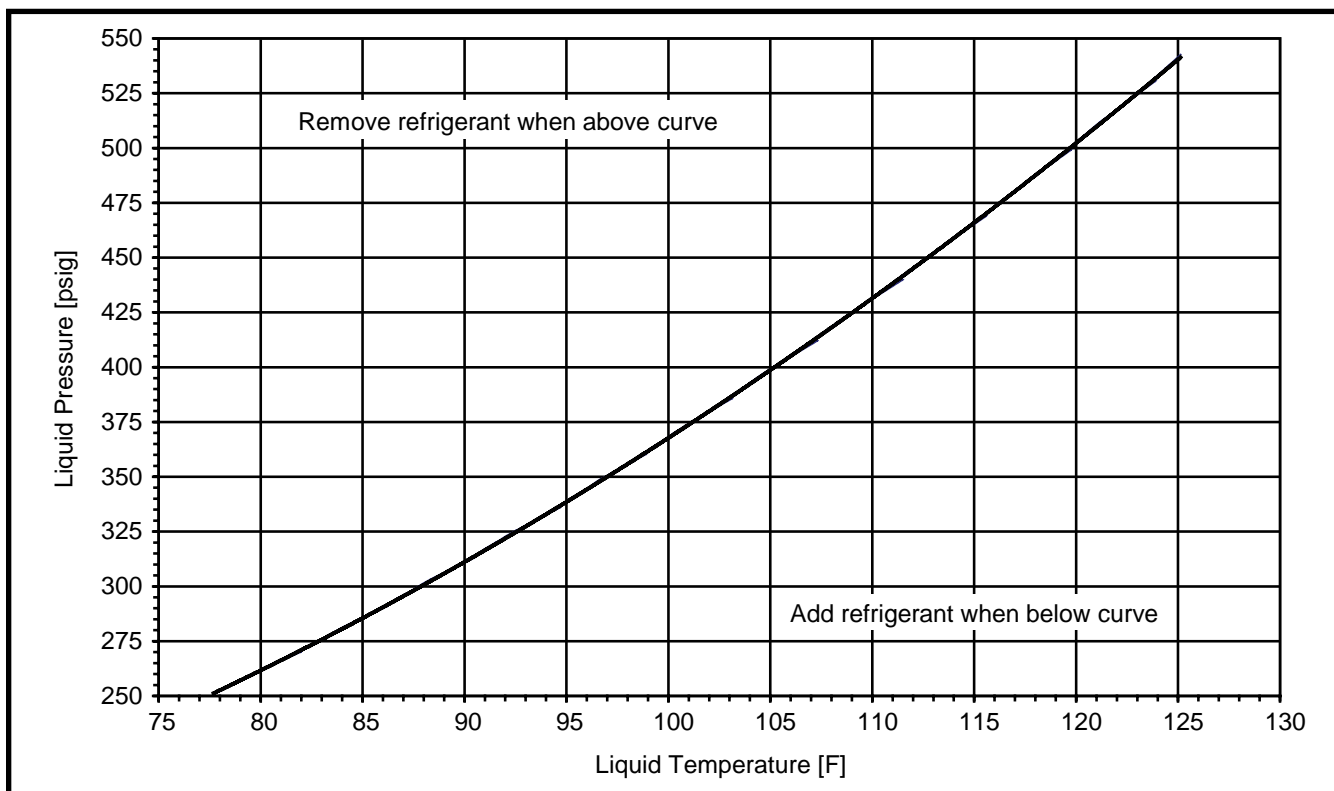

Figure 3. Charging Chart for T4QD-024K Series (2 Ton Units) - TXV Matches
- Refrigerant charging charts are applicable only to matched assemblies of NORDYNE equipment and listed airflows for the indoor coil. Refer to Tables 4 - 6 (page 9) and Figures 3 - 8 (pages 10 - 12) for correct system charging.
3. Determine the required liquid refrigerant pressure from Tables 4 - 6 (page 9) and Figures 3 - 8 (pages 10 - 12).
- The refrigerant charging charts and tables are valid for a variety of indoor, return air conditions and are most influenced by the outdoor ambient temperature, outdoor fan operation and the unit operating voltage. Before using these tables and charts, make sure the unit is in a stable operating mode. As shown in Tables 4 - 6 (page 9) and Figures 3 - 8 (pages 10 - 12), the ideal system sub-cooling can vary over the range of operation. Reference the tables to determine the ideal amount of sub-cooling for a given liquid pressure. Units charged to other values will not perform at the rated unit efficiency (EER) or rated Coefficient of Performance (COP) in heating mode.